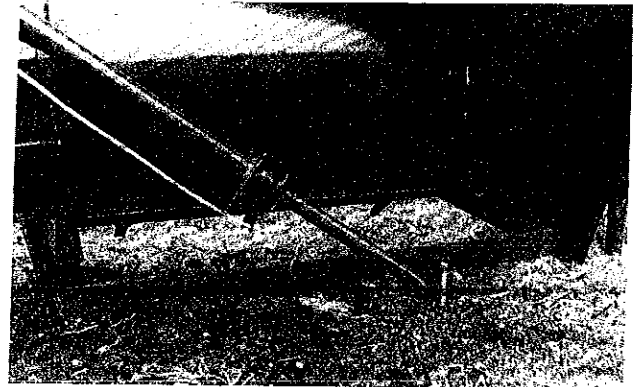

Figure 23 — Drag Feed Mounting
40. Slip pipe, Item 33, page 17, into pipe clamp and pipe, Items 34 and 11, page 17. Attach to lower sheller frame and drag housing with 2 each 3/8 x 2-3/4 clevis pin and 5/32 x 1-1/2 cotter pins. See Figure 23.